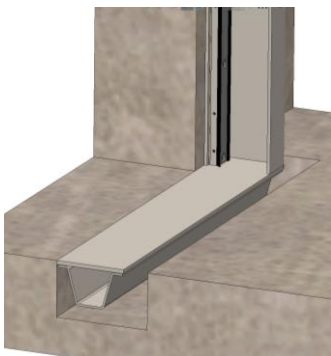

Fig. 9
- The bottom profile, if existent, requires onsite embedding with filler or mortar acc. Fig. 9.
- Position Sluice gate valve in respective recess and align with plumb and level acc. Fig. 9.